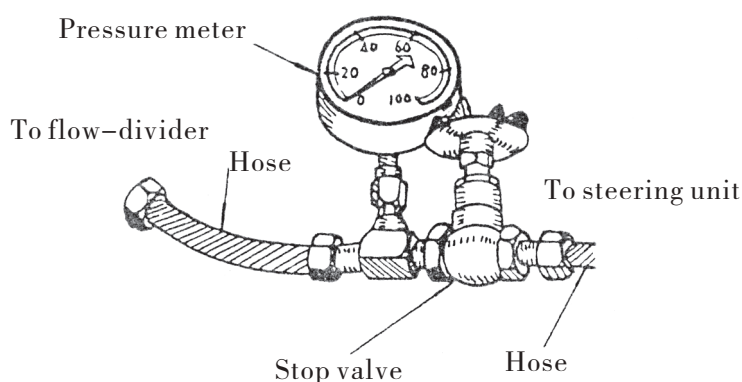
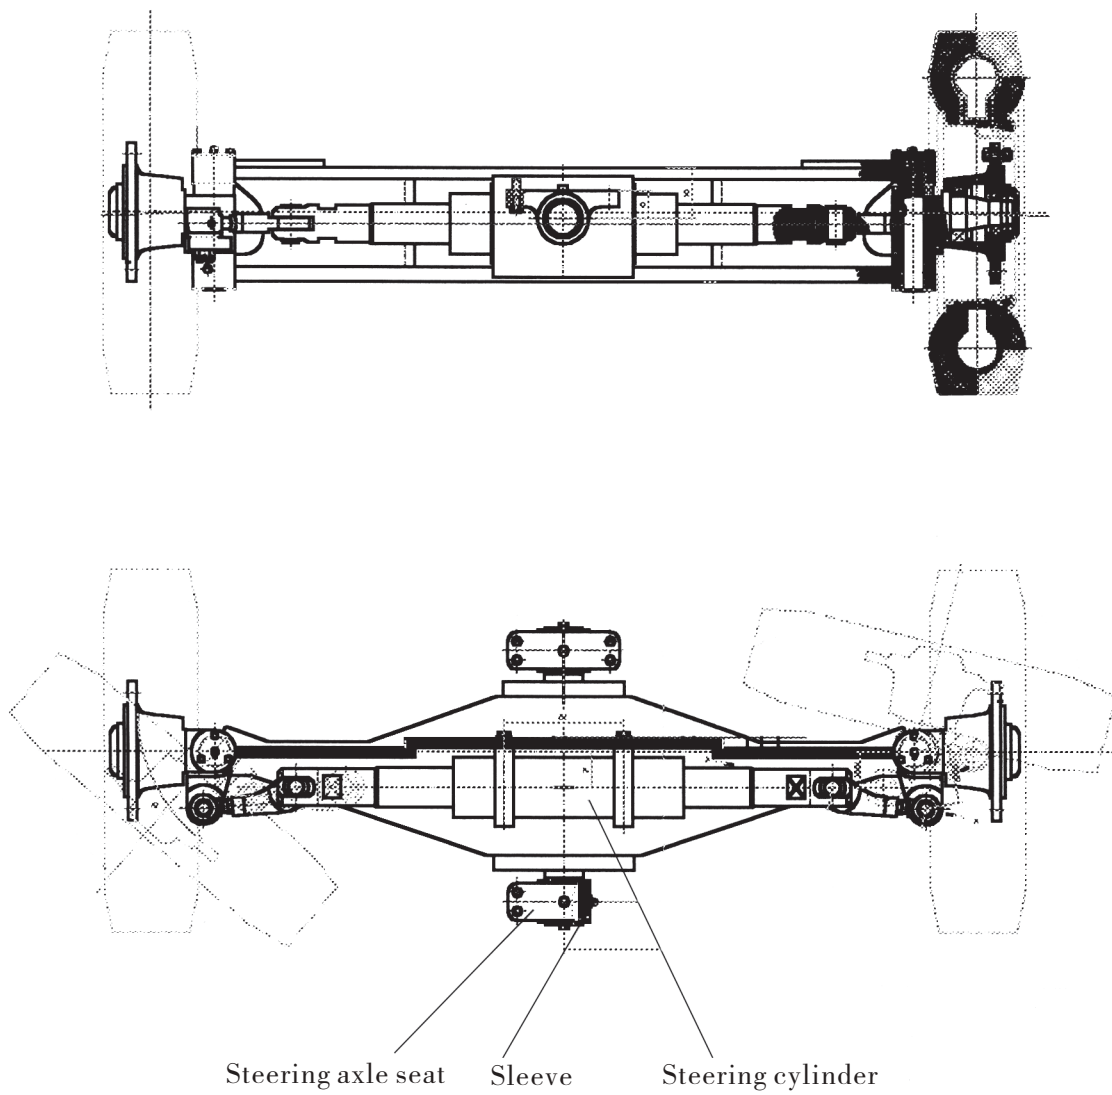

Fig. 6.3 Measure pressure
Fig.6.4 Steering axle
(5) To measure hydraulic pressure, use the pressure gauge (15–20MPa), stop valve and hoses connected as shown in fig. 6.3.
5–10t forklift entirely adopts transverse steering oil cylinder. The front and rear of the center are supported by two supporting axle through sleeve on the steering axle base, the later is fixed on the forklift frame. The two supporting axle can sway a certain angle to the right and left. The structures of steering axle of 5–10t forklifts are the same in the most parts and the main structure is presented in the Fig. 6.3 and Fig. 6.4.